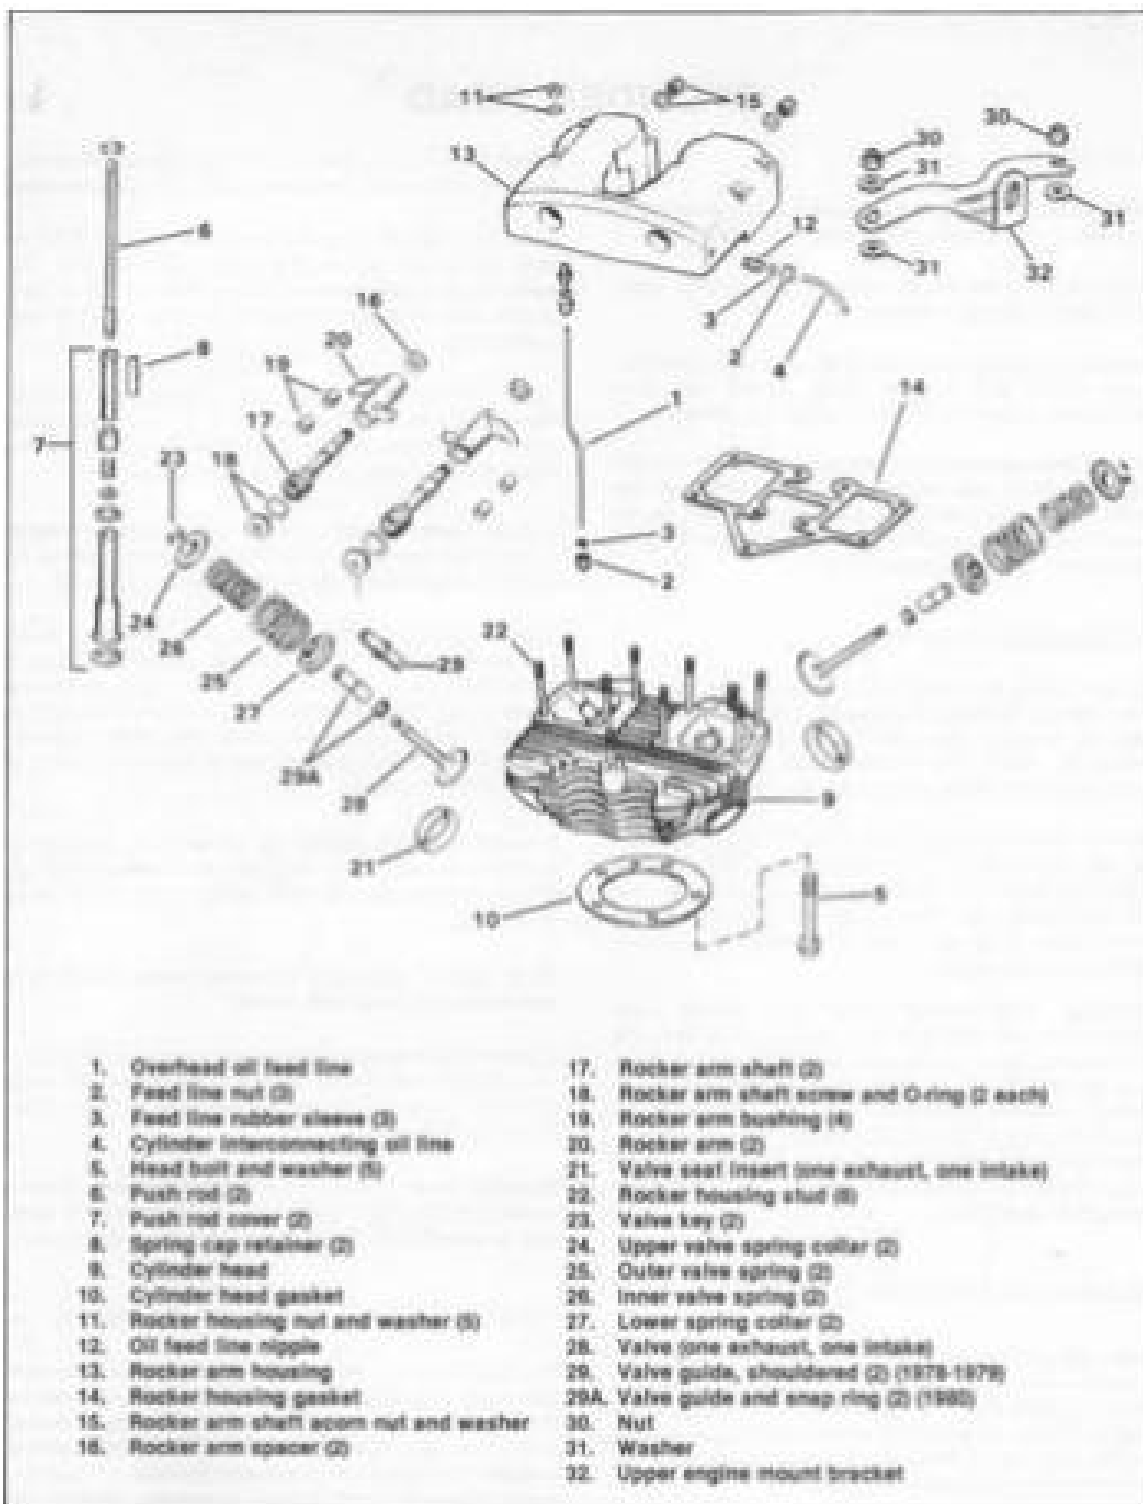

Figure 3-3. Cylinder Head – Exploded View
REMOVING (Figure 3-3)
DISASSEMBLING (Figure 3-3)
REPAIRING ROCKER ARMS AND BUSHINGS (Figure 3-3)
ASSEMBLING CYLINDER HEAD (Figure 3-3)
3. Install front cylinder push rods and covers (6, 7 Figure 3-3). Always use new push rod cover gaskets or O-rings when re-assembling. Clean sealing surfaces with greaseless solvent. Greasy joint surfaces will make it difficult to remove gaskets or O-rings during next disassembly.